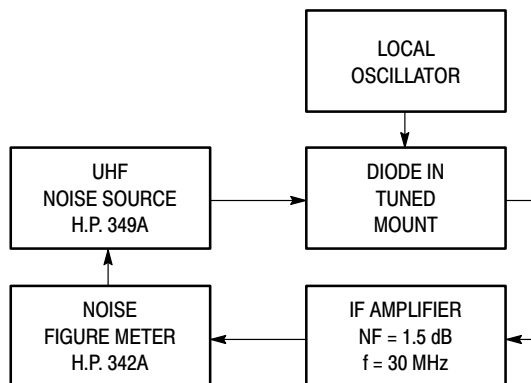

Figure 5. Noise Figure Test Circuit
- Note 2 — Noise figure measured with diode under test in tuned diode mount using UHF noise source and local oscillator (LO) frequency of 1.0 GHz. The LO power is adjusted for 1.0 mW. IF amplifier NF = 1.5 dB,  $f = 30 \text{ MHz}$ , see Figure 5.